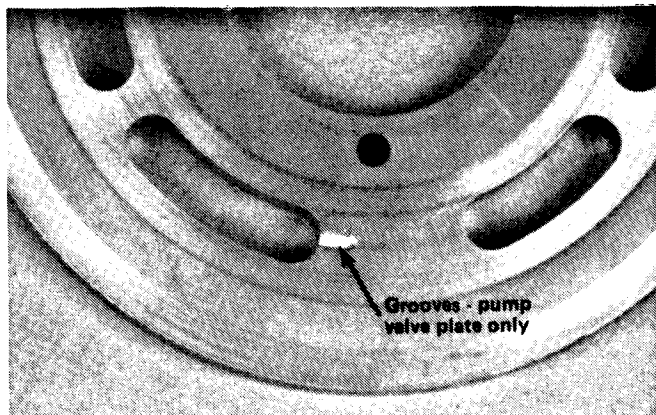

Figure 73
**NOTE:** Do not interchange pump and motor valve plates when assembling transmission. The pump plate can be identified by the grooves on one side of the ports (Fig. 73). The motor valve plate has no grooves.